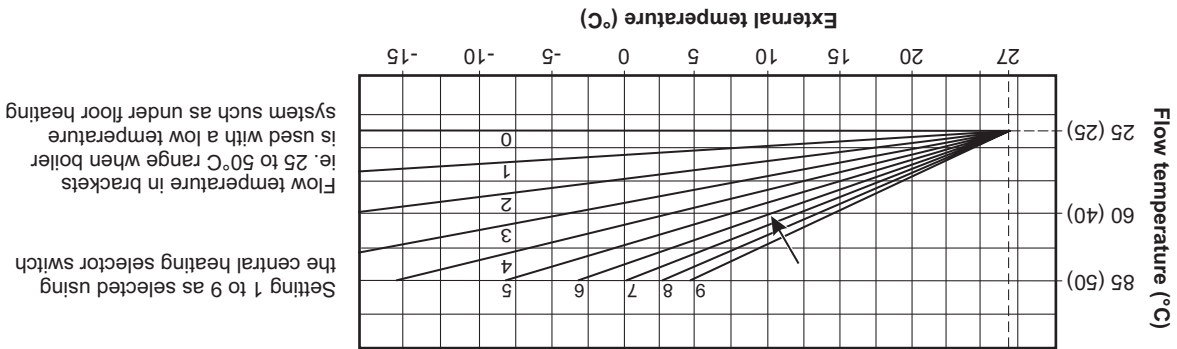

Fig. 2 - External weather compensation sensor fitted
When an external weather sensor is fitted, the central heating selector buttons (items 6 and 7 in Fig. 1) will no longer adjust the flow temperature in °C, instead the display will show a scale of 1 to 9. Each number corresponds to a line on the graph in Fig 2 i.e. line 6 will give a flow temperature of 60°C when the external temperature is 10°C. **Note:** This is the temperature of the water supplied to the radiators and not the desired room temperature. The time and temperature will still be maintained according to the setting of the room thermostat.